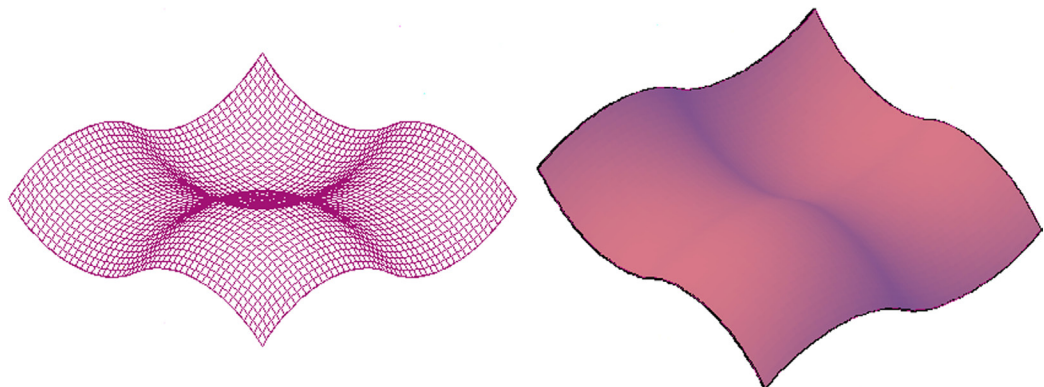

FIGURE 26.19
Step 3. After the final edge is selected, you see the mesh image shown on the left in Figure 26.19. On the right, it is shaded and slightly rotated for a better view.